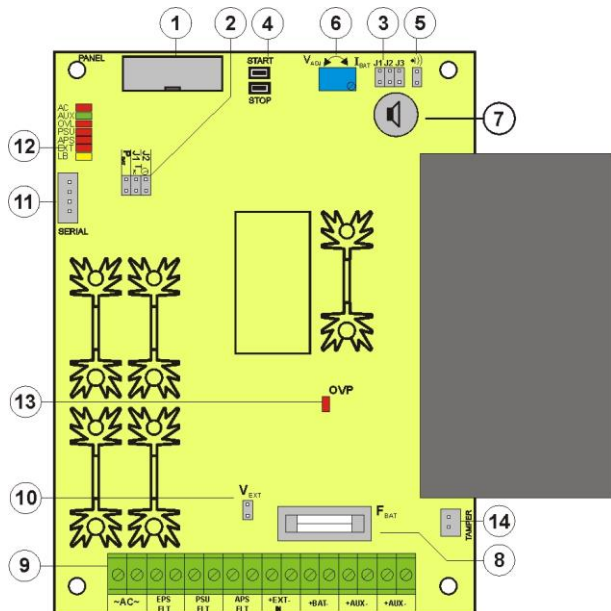

Fig. 2. The view of the PSU's PCB.
Table 1. Elements of the PSU pcb (see Fig. 2).
①	Insolation transformer
②	PSU board (see Tab.1, fig.2)
③	TAMPER ; micro-switch (contacts) of tamper resistance (NC)
④	F MAINS fuse in the supply circuit (~230 V)
⑤	L-N power supply connector ~230 V, protective connector
⑥	Battery connectors: positive: +BAT = red, negative: - BAT = black
⑦	Tamper grip